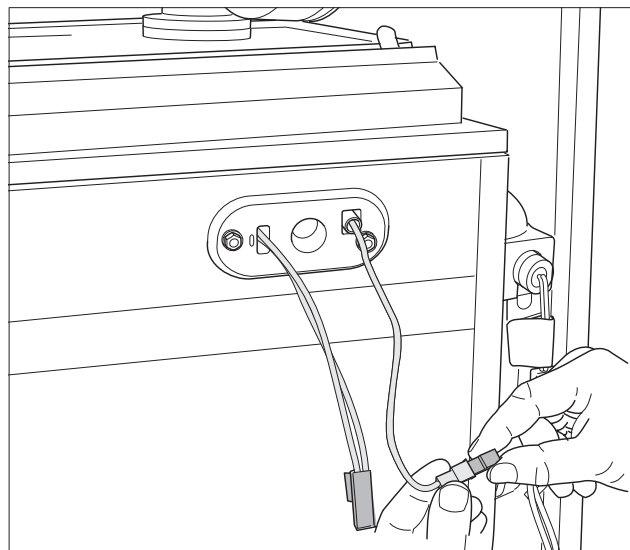

fig. 101 Removing the ionisation electrode plug and socket connection
- Undo the plug and socket connection of the monitoring cable (fig. 101).